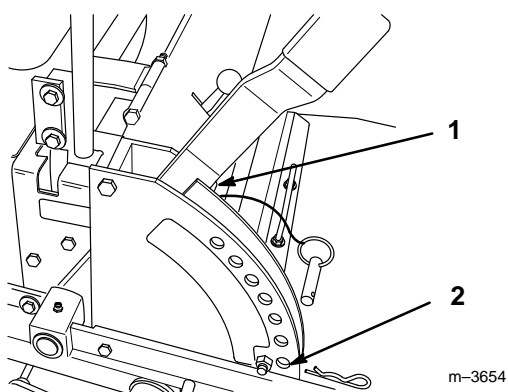

Figure 12
2. Check tire pressure of all four (4) tires. If needed, adjust to 13 psi (90 kPa)
4. Raise the deck to the transport position and take all force off of the two large deck lift springs by loosening nut in front of each spring (Fig. 12).
5. Place two 1-1/2" (38 mm) thick blocks under rear left and right lower edge of mower. Place one 2" (51 mm) block under front center lower edge of mower. Lower mower to the 1-1/2" (38 mm) height-of-cut position (Fig. 12).
12. Raise deck lift lever to the transport position, (Fig. 12).